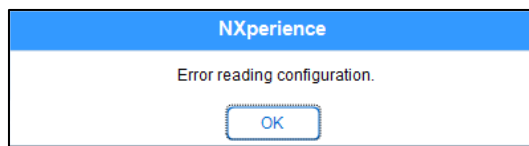

Fig. 50 – Error reading configuration
- e. If the **NXperience** shows an error while reading the configuration, as shown in **Fig. 50**, and the device display is off, try the procedure described in the following step.